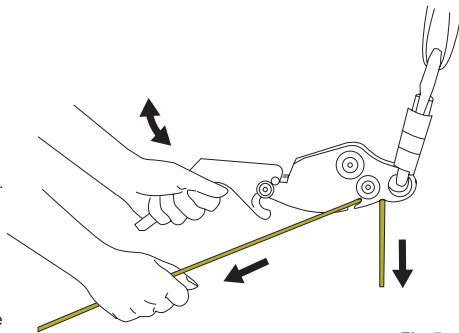

Fig. 7
8. The speed of the descent is regulated with one hand on the handle and the other hand holding the line below the device. Start with the line at an angle out of the slot. With the descender upside down, the descent starts by pulling the handle upwards fig. 7, and stops when moving the handle downwards or by releasing it. Increase or decrease friction by moving the line into the narrow part of the slot or away as shown in fig. 3B. It is important to always keep one hand on the line below the device to have better control of the descent.